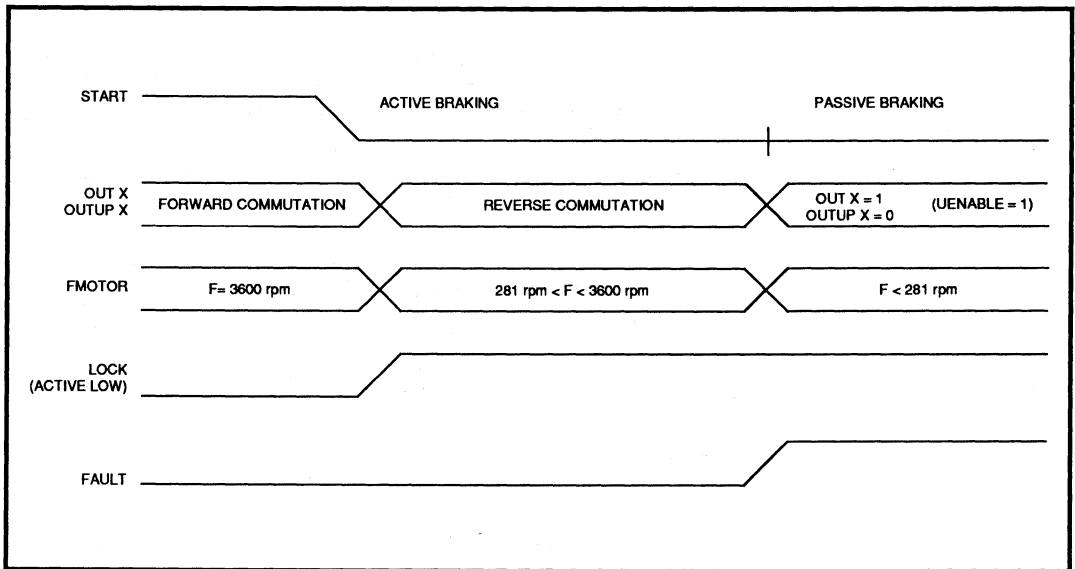

FIGURE 3: Active Braking Sequence
- (4) Reverse shutdown speed. During active braking ($START=0$) the HALL sensor's phasing is changed to apply a reverse torque to the motor until the motor speed drops below the reverse shutdown speed at which time the drivers turn off to deny power to the motor and FAULT goes high. If UENABLE is high (non-center tapped motor) the device will perform passive braking after the motor speed drops below the reverse shutdown speed by enabling the lower drivers, OUTX, to dissipate any remaining coil energy. The upper drivers OUTUPX are off. (See Figure 3.)